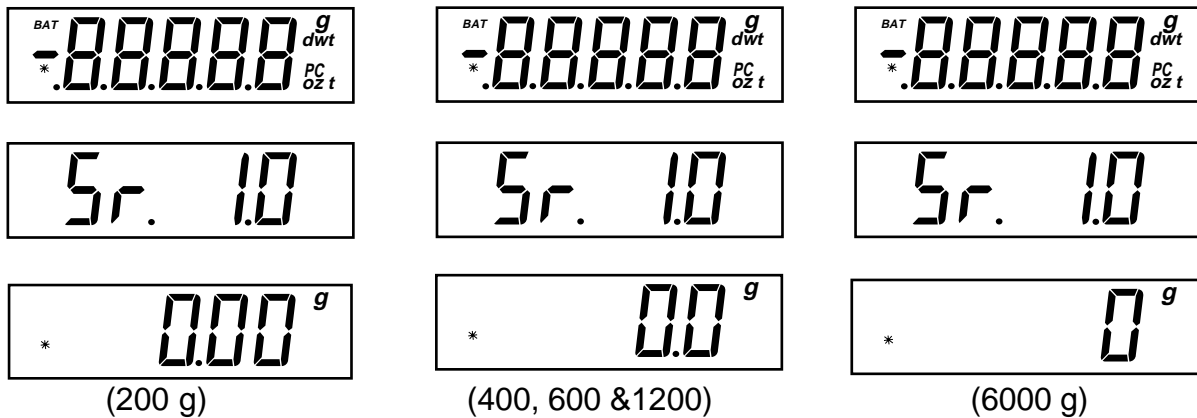

Figure 4-3. Display Turn On Sequence.
1. Turn the balance on by pressing **Zero On**, all segments are enabled and displayed briefly, then followed by a software revision number (which may be different from the display shown below). This is a segment display test. See Figure 4-3.